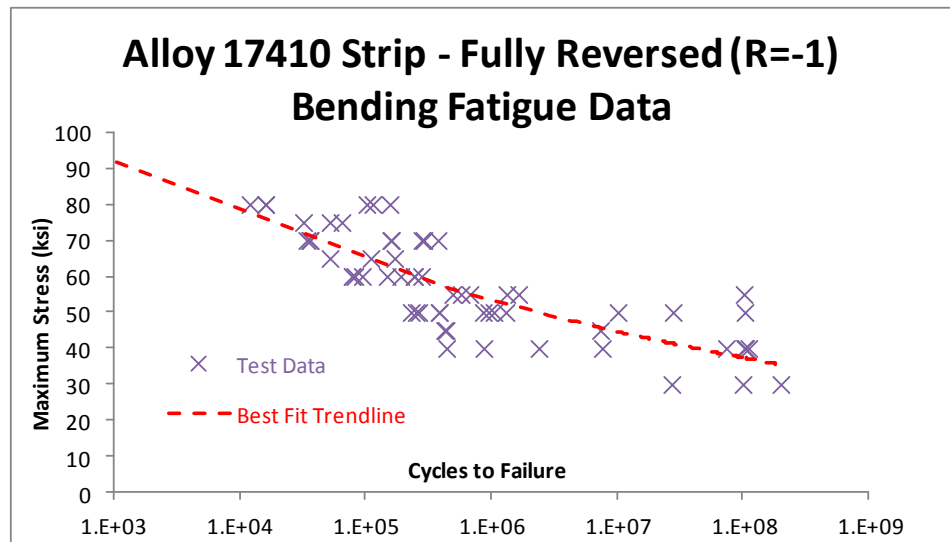

Figure 1. S-N Diagram with Best Fit Trend Line.
**Statistical Analysis of S-N (Wöhler) Diagrams (continued)** Figure 2 below shows the data of Figure 1 replotted, this time with trend lines corresponding to various failure rates. (The individual data points for 1%, 5%, and 10% failure have been omitted for clarity. The accuracy of the curves increases with the number of samples at each given stress level. This determines the width of the failure band at each stress level. Furthermore, as the number of stress levels tested increases, the shape of the failure rate curves should improve in accuracy as well.